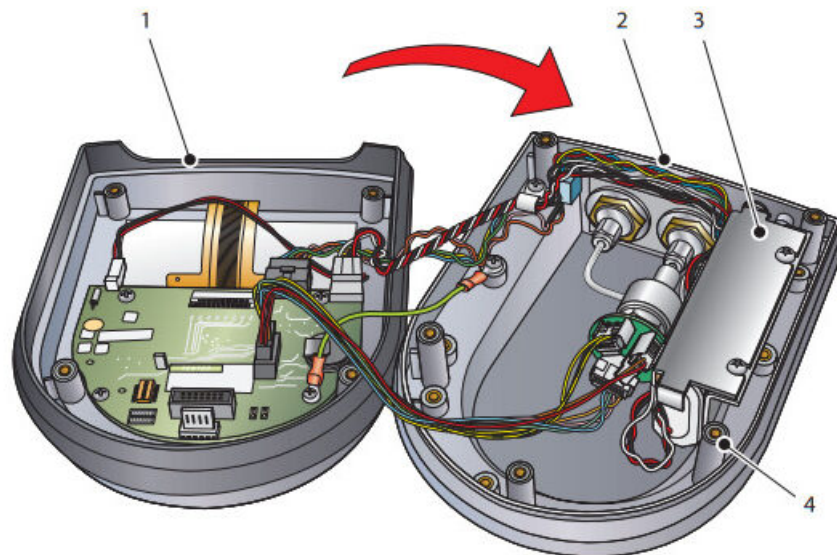

Figure 2 *Open Case*
There should also be an O-ring (see Figure 2, (4)) on each of the five pillars – keep these safe for later use.
6. Place the two halves of the casing (1) and (2) side by side (refer to Figure 2).